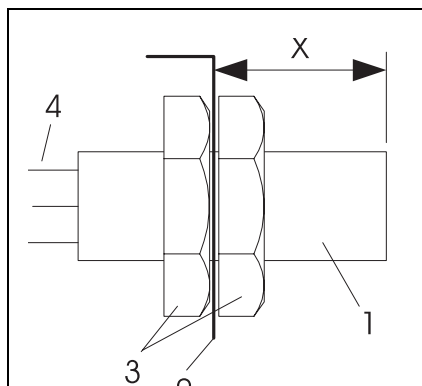

Fig. 8.3 Removing the tachometer generator
2. Screw the nuts (see Fig. 8.3/3) so far onto the tachometer generator that the measured Distance X between the surface of the tachometer and the bracket is reached.
4. Use the feeler gauge to set gap A between the gearwheel (2) and the tachometer (1) so that the feeler gauge can still be moved slightly in the gap.